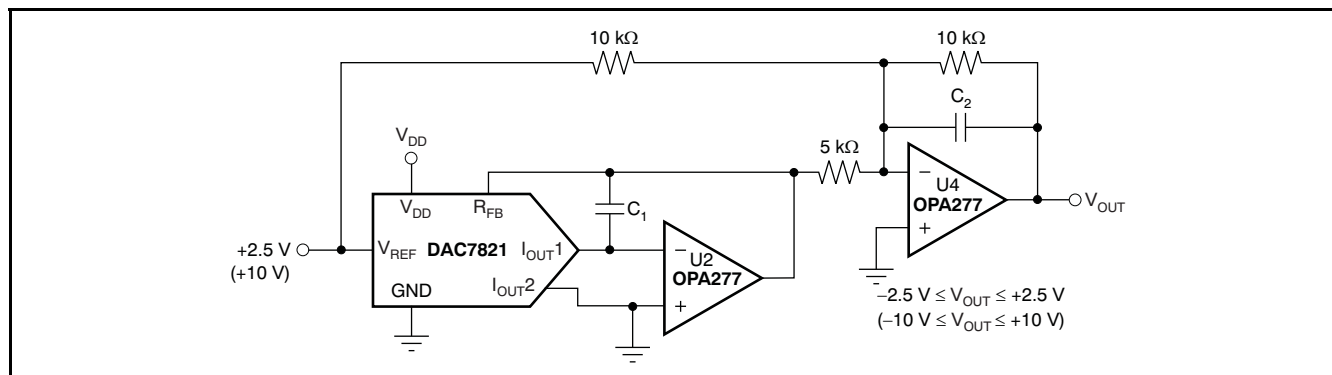

Figure 29. Bipolar Output Circuit
Some applications require full 4-quadrant multiplying capabilities or bipolar output swing. As shown in Figure 29, external op amp U4 is added as a summing amp and has a gain of 2X that widens the output span to 5V. A 4-quadrant multiplying circuit is implemented by using a 2.5V offset of the reference voltage to bias U4. According to the circuit transfer equation given in Equation 2, input data (D) from code 0 to full-scale produces output voltages of  $V_{OUT} = -2.5V$  to  $V_{OUT} = +2.5V$ .
External resistance mismatching is the significant error in Figure 29.